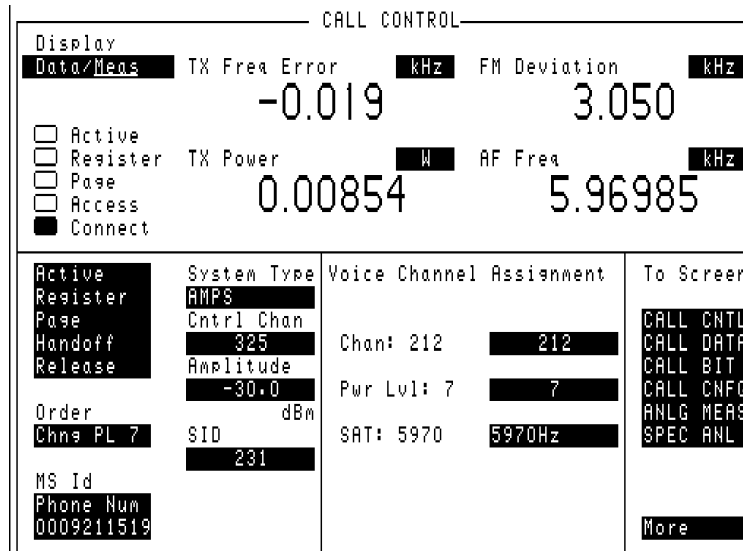

Figure 20 AMPS CALL CONTROL Screen with Meas Selected
- For system types **AMPS**, **TACS**, and **JTACS**, four characteristics of the RF carrier are measured: TX Freq Error, TX Power, FM Deviation, and AF Frequency. When set to the **Meas** display, the AF Analyzer's settings are 300 Hz HPF, 15 kHz LPF, De-Emphasis Off, PK+ detector. The **Meas** information is available only when the Test Set's **Connect** annunciator is lit (connect state). Refer to the individual field descriptions for further information. **Figure 20 on page 127** shows the layout of the CALL CONTROL screen when **Meas** is selected.